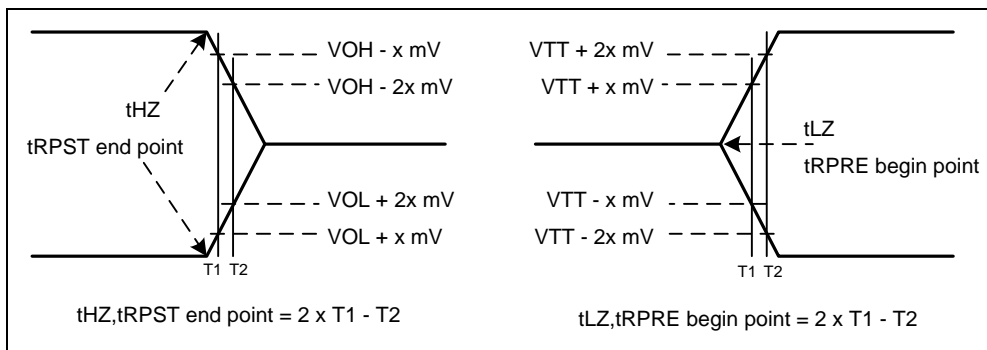

Figure 18 – Method for calculating transitions and endpoints
14. t_{RPST} end point and t_{RPRE} begin point are not referenced to a specific voltage level but specify when the device output is no longer driving (t_{RPST}), or begins driving (t_{RPRE}). Figure 18 shows a method to calculate these points when the device is no longer driving (t_{RPST}), or begins driving (t_{RPRE}) by measuring the signal at two different voltages. The actual voltage measurement points are not critical as long as the calculation is consistent.
15. t_{HZ} and t_{LZ} transitions occur in the same access time as valid data transitions. These parameters are referenced to a specific voltage level which specifies when the device output is no longer driving (t_{HZ}), or begins driving (t_{LZ}). Figure 18 shows a method to calculate the point when device is no longer driving (t_{HZ}), or begins driving (t_{LZ}) by measuring the signal at two different voltages. The actual voltage measurement points are not critical as long as the calculation is consistent. $t_{LZ}(\text{DQ})$ refers to t_{LZ} of the \overline{DQ} 's and $t_{LZ}(\text{DQS})$ refers to t_{LZ} of the (\overline{DQS} , \overline{DQS} , \overline{RDQS} , \overline{RDQS}) each treated as single-ended signal.